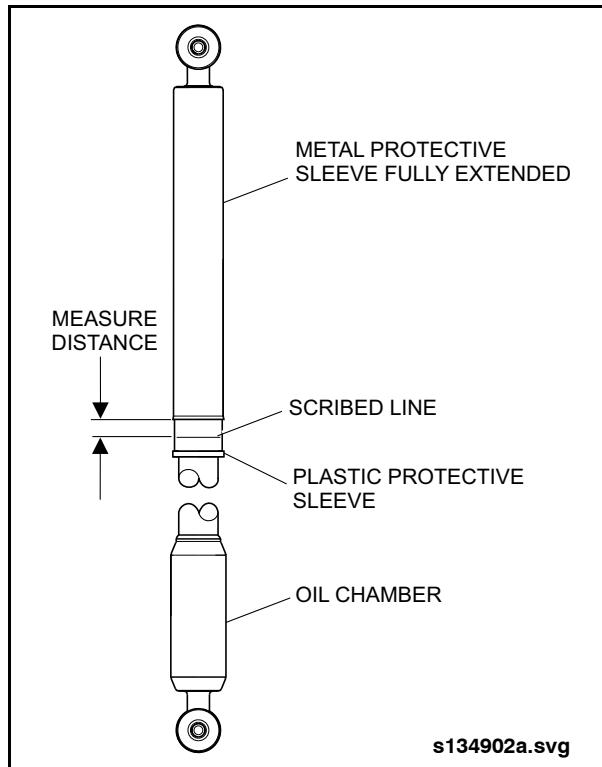

Fig. PM-15: Damper Measurement
8. Retract the piston upwards until the plastic protective sleeve is fully extended. Measure the distance between the edge of the metal protective sleeve and the mark scribed on the plastic protective sleeve. See "Fig. PM-15: Damper Measurement" on page 37.